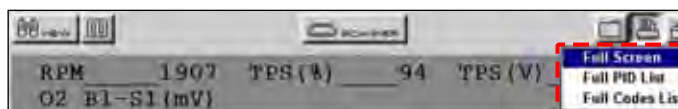

Figure 5-51 Sample Print menu
3. Select **Print >** print option (Figure 5-51).